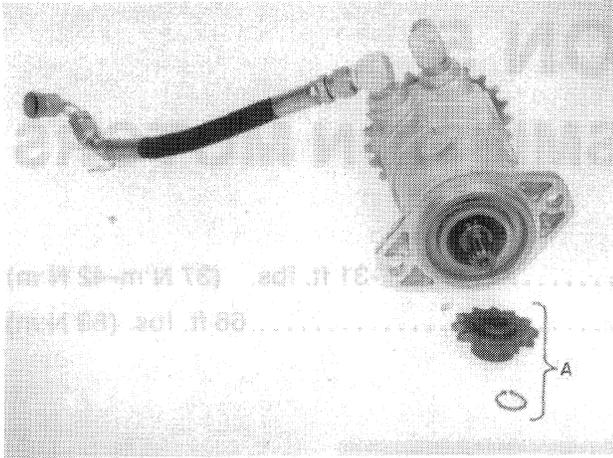
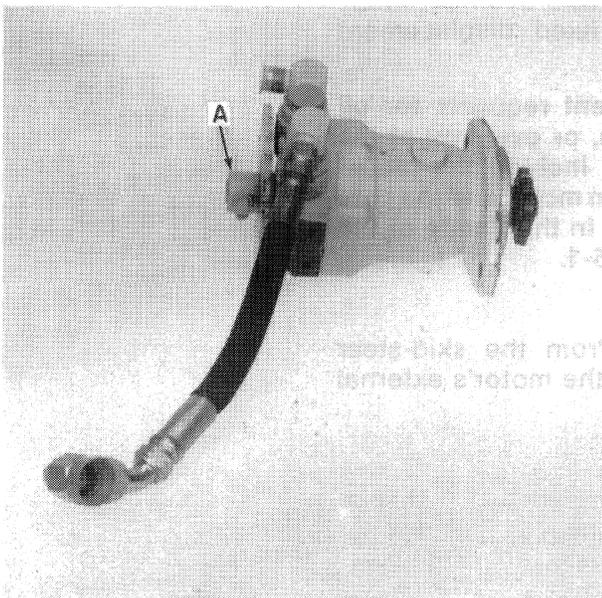

FIGURE 5-2
FIGURE 5-3
2. Remove the sprocket and snap ring from the motor shaft, A, Figure 5-2, and the sprocket brake held on by two 90° opposed setscrews and shaft key, A, Figure 5-3.